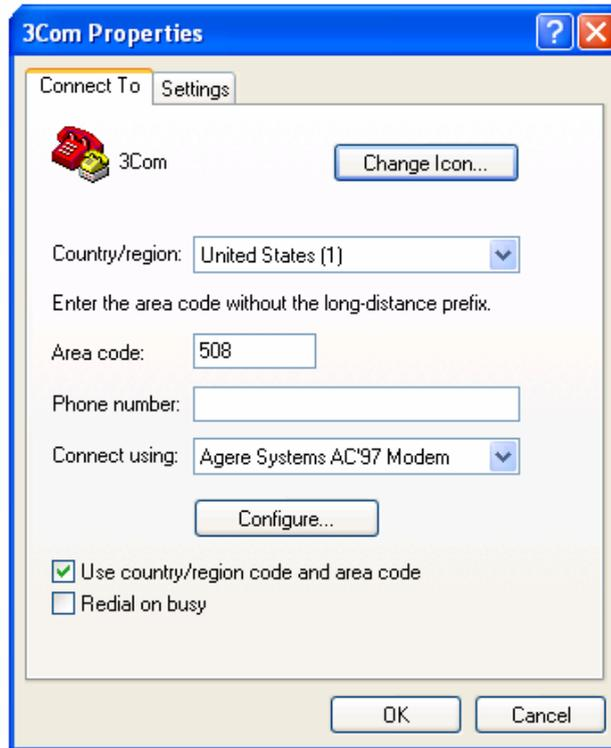

Figure 3-3 Setting the connection port
Step 2: Enter the name of the new connection in the Name field and click <OK>. The dialog box, as shown in Figure 3-3, displays.